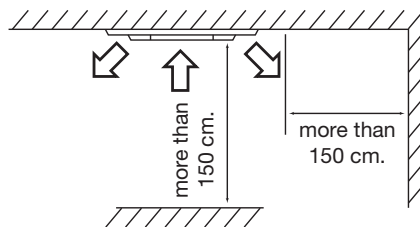

Figure 1
- Select the location where a space is more than 150 cm. as shown in figure 1 also ensure that the position dose not interfere with light fitting, sprinkle head, etc.